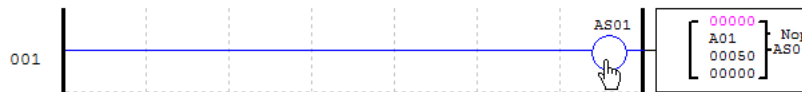

Figure 1
1.0 Using the SG2 Client software, duplicate the program as shown in Figure 1 below.